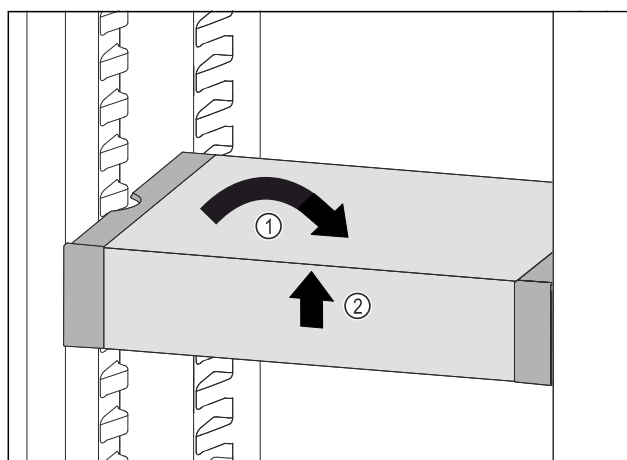

Fig. 103
- Set VarioSafe straight. Fig. 103 (1)
- Lift VarioSafe at the front. Fig. 103 (2)